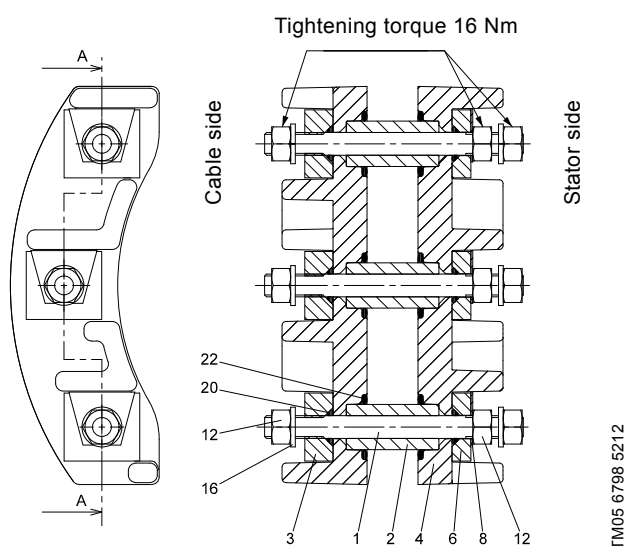

Fig. 14 Standard terminal board, range 72
1. Remove the brass nuts (12) and the spring washers (10) from cable side. See fig. 14.
2. Release the locking of the brass nuts (12) on the stator side by bending down the tabs of the locking plates (8). Remove the brass nuts (12) and the plates (8).
3. Remove the washers (3 and 5) including the O-rings (20).
4. Remove the plastic bars (4) including O-rings (22) from both sides.
5. Remove the copper stud bolts (1) including sleeves (2).